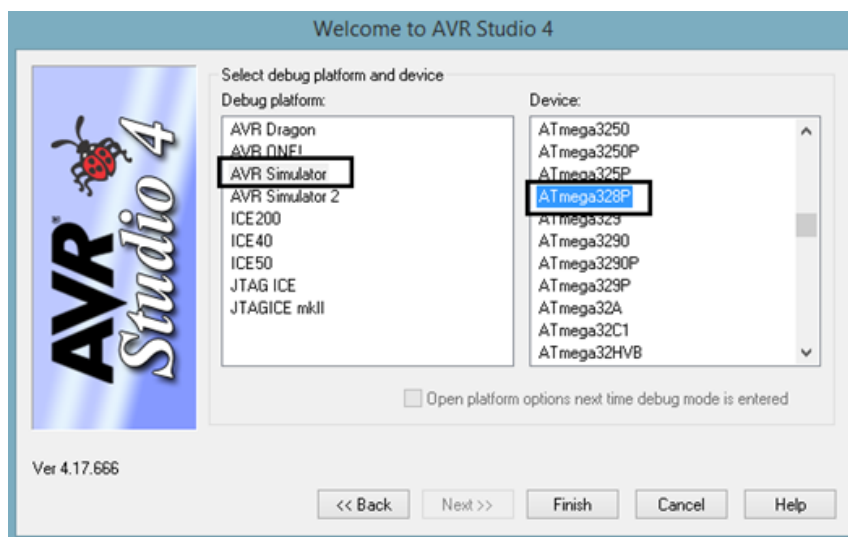

Figure 1.8 – AVR microcontroller Selection
3. In the next menu, select AVR Simulator in debug platform and ATmega328P in device menu. After selection click finish as shown in figure 1.8.